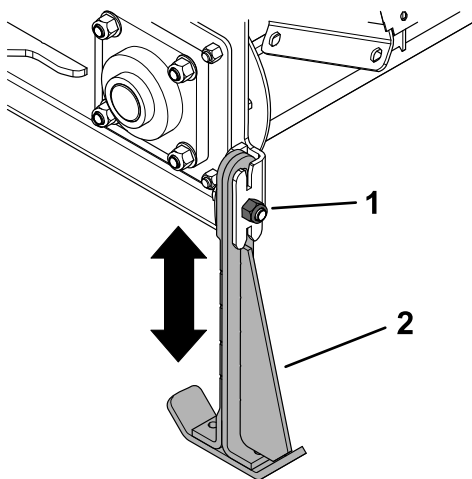

Figure 7
3. For both kickstands, complete the following steps (Figure 7):